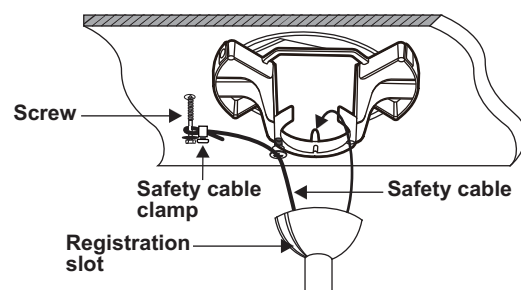

Figure 8
8. Now lift the motor assembly into position and place the hanger ball into the hanger bracket. Rotate down rod until the "Check Tab" has dropped into the "Registration Slot" and the down rod and ball assembly seat firmly. The down rod and ball assembly should not rotate if this is done correctly. (Fig. 8)
9. Attach the lag bolt and flat washer to ceiling joist. Attach the safety cable to lag bolt. Slide cable clamp onto safety cable (from fan). Place the end of cable through the lag bolt. Pull as much cable through lag bolt as possible. Feed end of cable into clamp hole and firmly tighten screw (Fig. 8). Cut off excess safety cable.